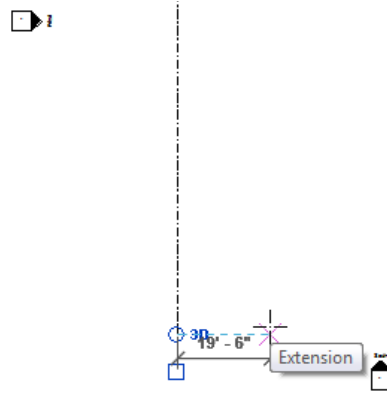

Figure 3-47 Specifying the start point of the second vertical grid line
5. Now, move the cursor downward and position it near the right side of the endpoint of the grid line created previously, as shown in Figure 3-47.